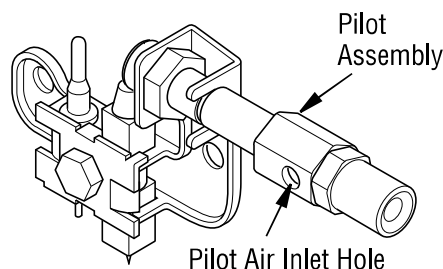

Figure 42 - Pilot Inlet Air Hole
2. Inspect burner, pilot and primary air inlet holes on injector holder for dust and dirt (see *Figure 42*).
6. In case any large clumps of dust have now been pushed into the burner repeat steps 3 and 4. Clean pilot assembly also. Additional cleaning may be needed for proper pilot operation based on use/lack of use. A yellow tip on the pilot flame may indicate dust and dirt in the pilot assembly. There is a small pilot air inlet hole about from where the pilot flame comes out of pilot assembly (see *Figure 42*). With unit off, lightly blow air through air inlet hole. You may blow through a drinking straw if compressed air is not available.